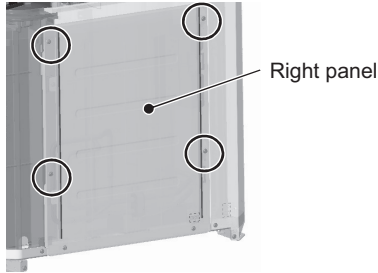

Figure 1
- (1) Remove the front heat exchanger. Refer to 8-13-7 Maintenance Procedures for the Heat Exchanger for details.
- (2) Remove the top, front, and right compressor covers. Refer to 8-13-4 Compressor Replacement Procedure for details.
- (3) Remove the duct from the control box. Refer to Removal Instructions for the Control Box for details.
- (4) Remove the right and inside (right) compressor panels by unscrewing the four screws. (Applicable only to the S-module. See Figures 1 and 2.)